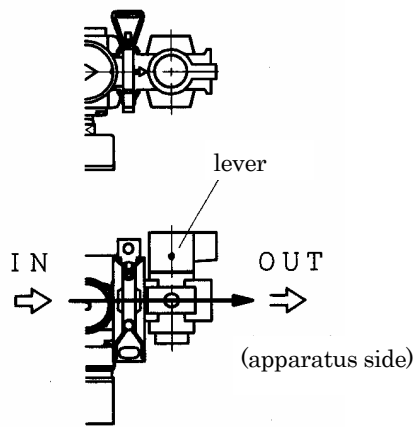

Fig.6
1. "Supply position"(See Fig.6)
When the pipe and the lever are in parallel as in Fig.6, letter "SUP." can be seen from the window below the lever. In this lever position, air is supplied from the primary side to the apparatus.